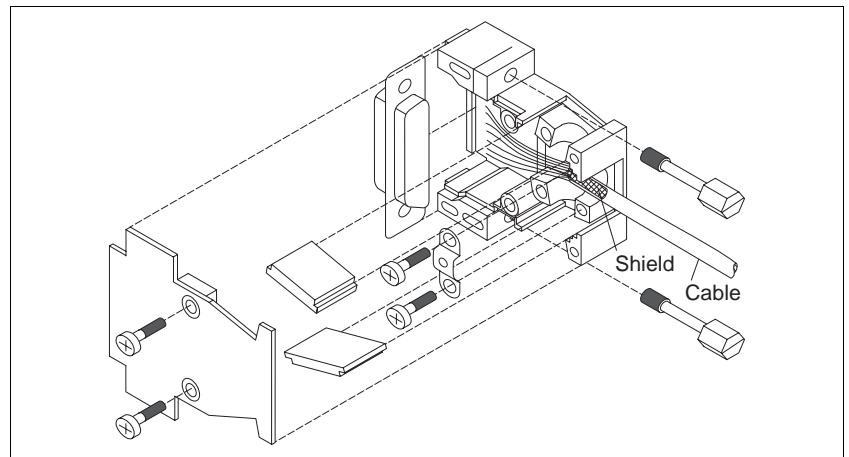
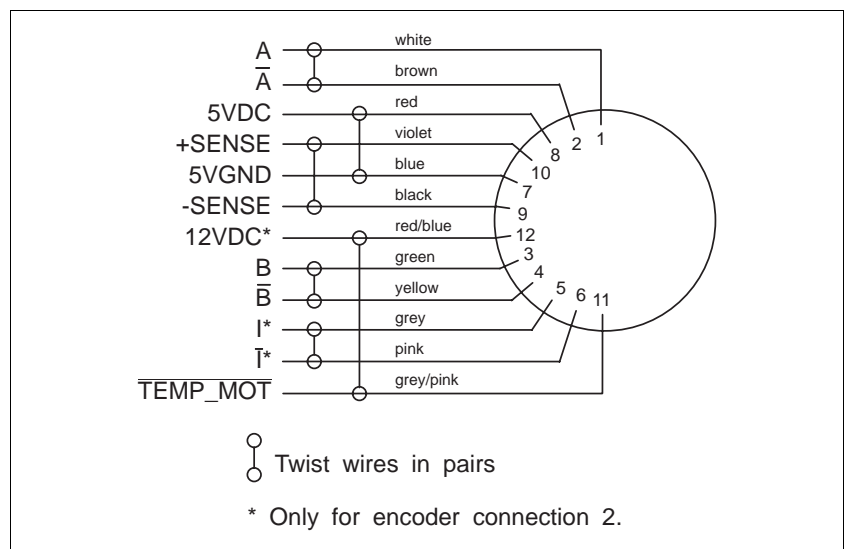

Fig. 2-9 Encoder connector assembly - device end
Fig. 2-10 Encoder connector layout - motor end
3. Insert two hexagon head bolts (fig. 2-9) into the connector shell.
8. Fasten the connector to the front panel (item 26) with screws.
9. Twist the encoder cable wires in pairs as illustrated in fig. 2-10.